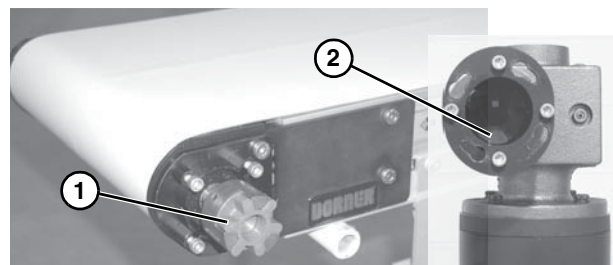

Figure 5
3. Rotate conveyor belt and attached conveyor coupling (**Figure 5, item 1**) to align with gearmotor coupling (**Figure 5, item 2**).